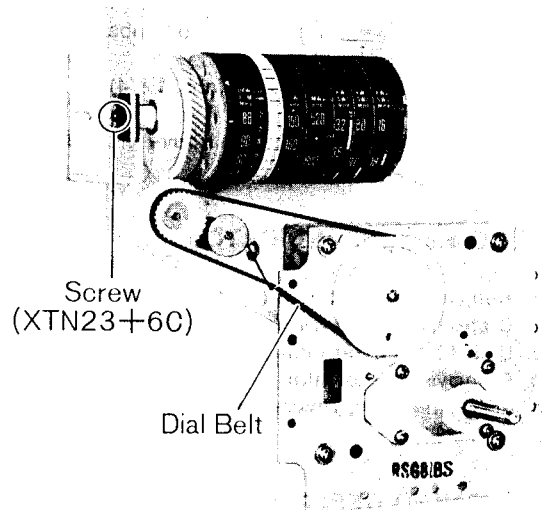

Fig. 7
2. Remove the dial belt, as shown in fig. 7.
2. Set the dial scale at the position, as shown in fig. 7.
2. Remove the one (1) screw for the dial scale spring, as shown in fig. 7.